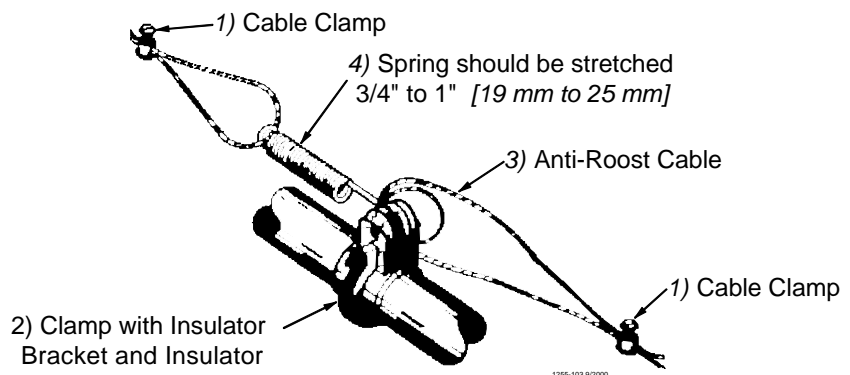

Figure 46. Anti-Roost Cable Mid-Line Connection
4. Attach a spring in the center groove at the second anti-roost bracket and cut the cable at this point. See **Figure 46**.
5. Thread the ends of the cable through the end of the spring. Pull the cable tight so that there is 3/4" to 1" [20 to 25 mm] of stretch in the spring. Clamp the cable to form a loop and cut off any excess. See **Figure 46**.
6. Attach the cable to the insulator. For best results, make a double loop around the anti-roost insulator in the center groove of the insulator and fasten with a 1/16" cable clamp as shown in **Figure 46**.